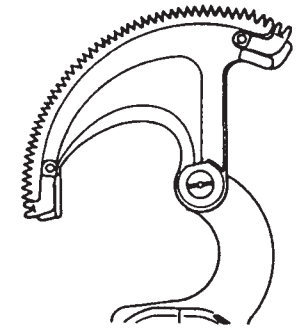

Figure 5
1. Activate the switch to open the moving blade. (Figure 5)